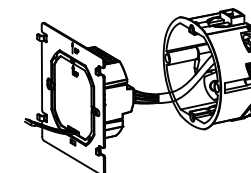

Fig 3
Step 3. Connect power supply, load and external (floor) sensor into the appropriate terminals if there is external sensor. (see “Wiring your thermostat” for details and Fig 3).